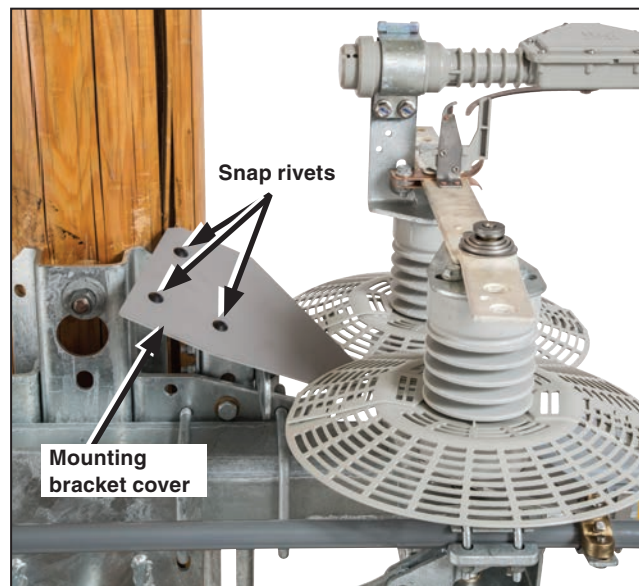

Figure 19. The pole-mounting bracket cover.
- (e) After installing the wildlife disks, install the pole-mounting bracket cover with the snap rivets provided. See Figure 19.